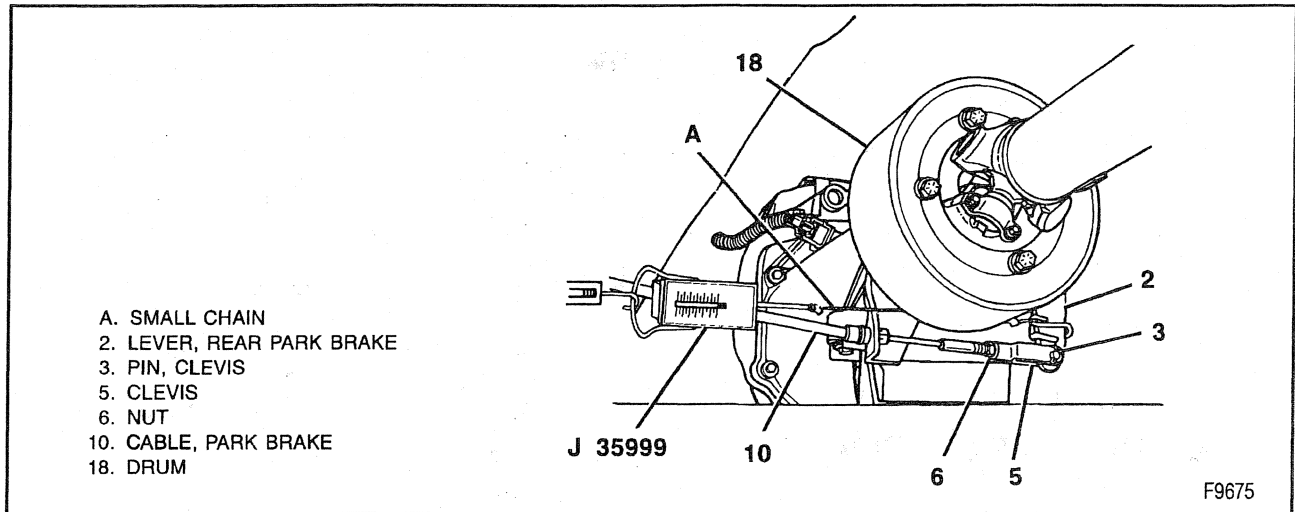

Figure 6—Parking Brake Adjustment
3. Install J 35999 with a small length of cable or chain, and a tightening device (like a turn buckle) on the frame (figure 6).
4. Install a small chain (A) on the lever (2) near the spring (23) on the bottom of the lever.
6. Loosen nut (6) and turn the clevis (5) until the pin (3) slides freely in the lever (2) with all slack removed from the cable.
7. Install clevis pin (3) and cotter pin (4).